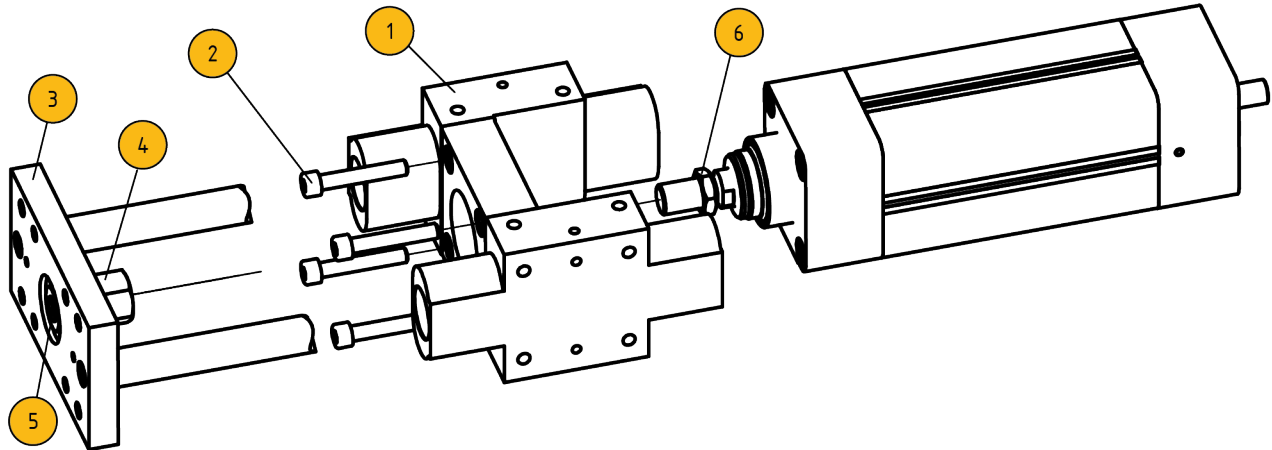

Figure 8: Mounting the rod guide
- ◆ Unwrap the rod guide and remove the transportation lock between the rod guide module (see Figure 8 Pos. 1) and the front plate (see Figure 8 Pos. 3).
- ◆ Slide the rod guide module (see Figure 8 Pos. 1) onto the centering collar of the ETH cylinder.
- ◆ Screw together the rod guide module with the screws supplied (see Figure 8 Pos. 2) and the required tightening torque. For tightening torques see chapter 2.1.2.2 screw tightening torques for the mounting of the ETH cylinder on the customer's side, option F.
- ◆ Loosen the screw (see Figure 8 Pos. 5) thus the lock nut (see Figure 8 Pos. 4) can move freely.
- ◆ Turn the lock nut on the piston rod of the ETH cylinder and lock it with the hexagon nut (see Figure 8 Pos. 6).
- ◆ Clamp the lock nut with the front panel by tightening the screw (see Figure 8 Pos. 5) with the required tightening torque. To avoid damaging the cylinder, the lock nut must be used to hold the cylinder in place. Tightening torques: ETH032 = 6,5 Nm, ETH050 = 16 Nm, ETH080 = 29 Nm.